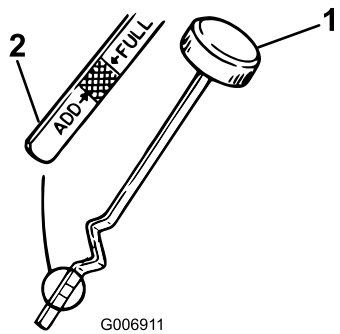

Figure 18
7. Unscrew the oil dipstick and wipe the metal end clean (Figure 18).